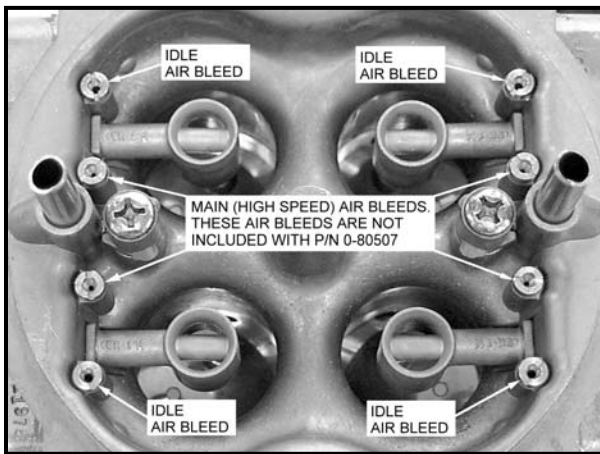

Figure 10
**NOTE: See Figure 10 for air bleed locations and identification. It is recommended that all jet sizes be documented before any tuning of the air bleeds or main jets is started. Below is a chart for recording the jet and air bleed sizes for your 4150 HP Pro-Series carburetor as shipped from Holley. Should you adjust the air bleed size or main jet size, this chart will allow the tuner to return the carburetor to the original jetting. Please place this information in a safe place along with any other documentation for your carburetor.**